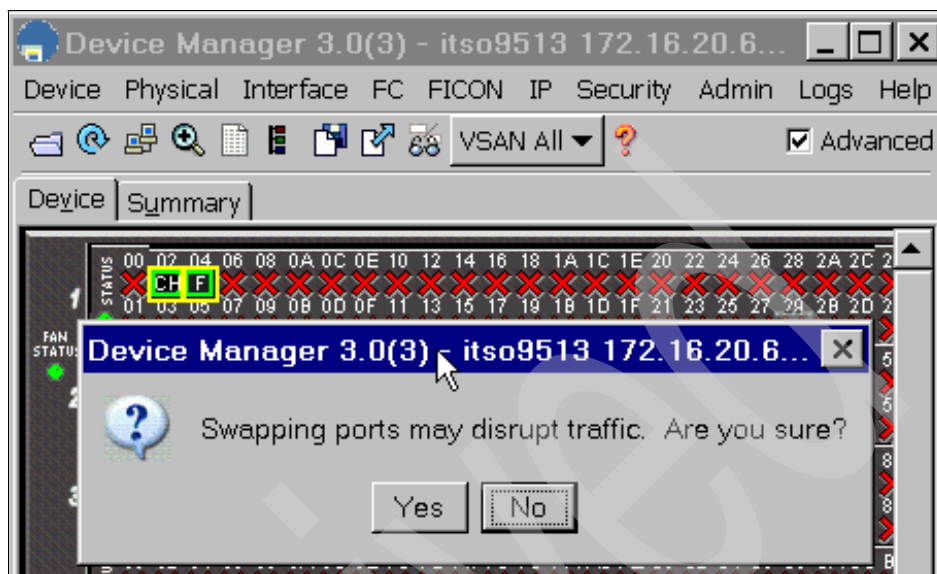

Figure 83 Warning message
3. At the advisory that this might be disruptive (Figure 83), click **Yes**.